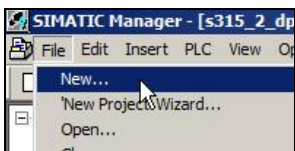

Figure 14: Creating a project in SIMATIC Manager
- 2) Select **File > New...** to create a project (see: Figure 14: Creating a project in SIMATIC Manager).